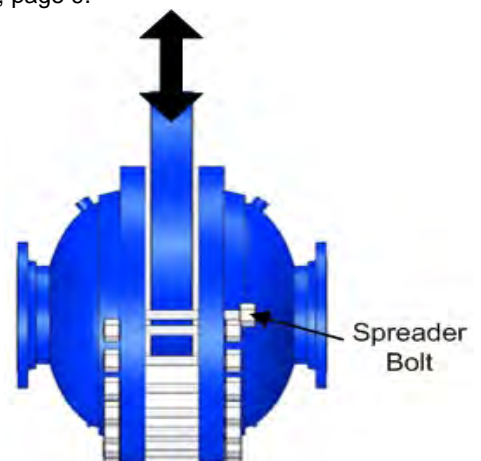

Figure 2: 7758A Element Housing Removal Illustration
4. Remove the flame element housing assembly for inspection (**Figure 2**). The flame element mesh and supporting grids shall be visually inspected for damage or corrosion build-up from both sides. If the flame element mesh appears to be damaged, it shall be replaced immediately.